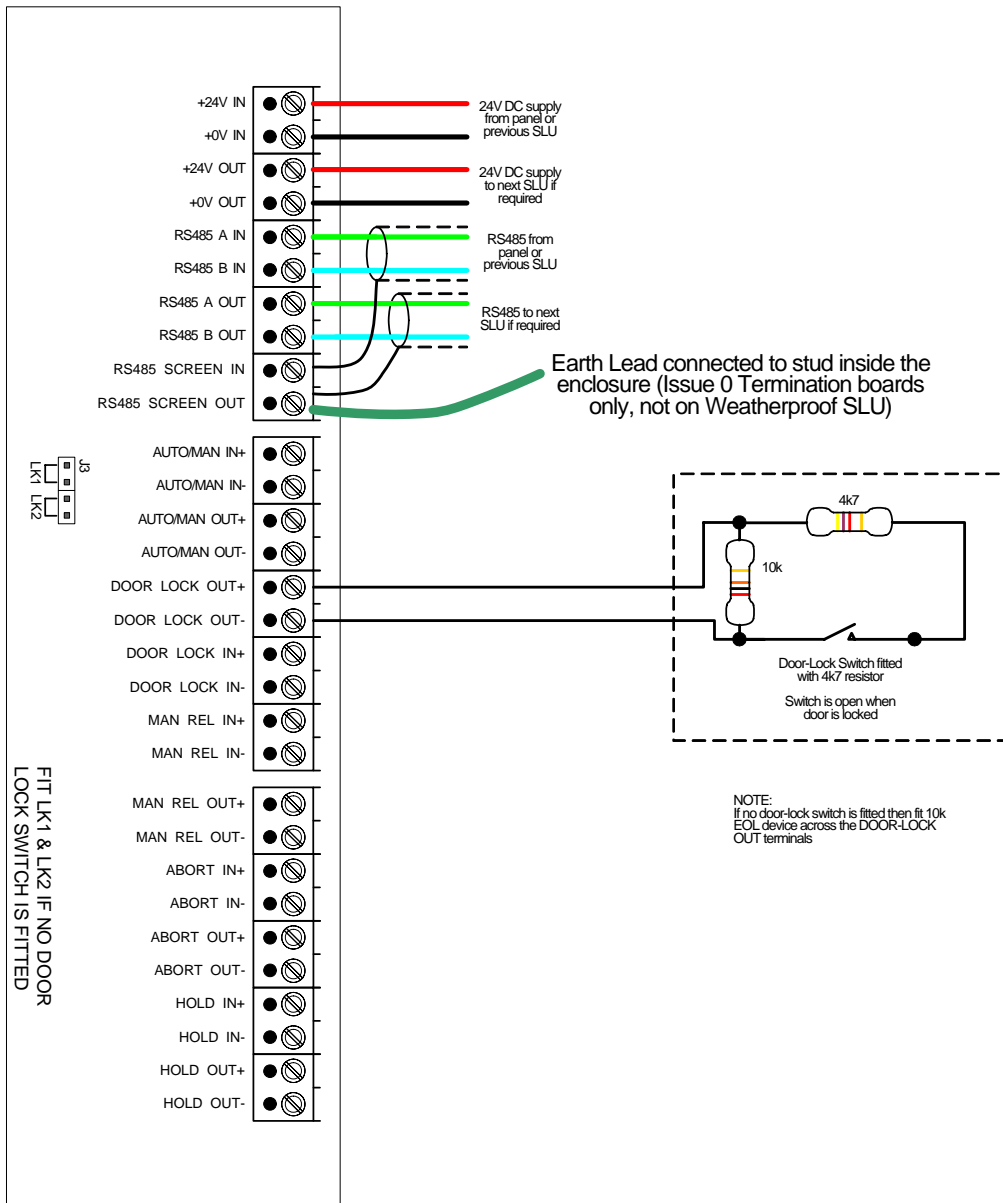

Figure 10
7. Check that any required End-Of-Line resistors are fitted as shown in the wiring diagrams (see Figure 9 & Figure 10).